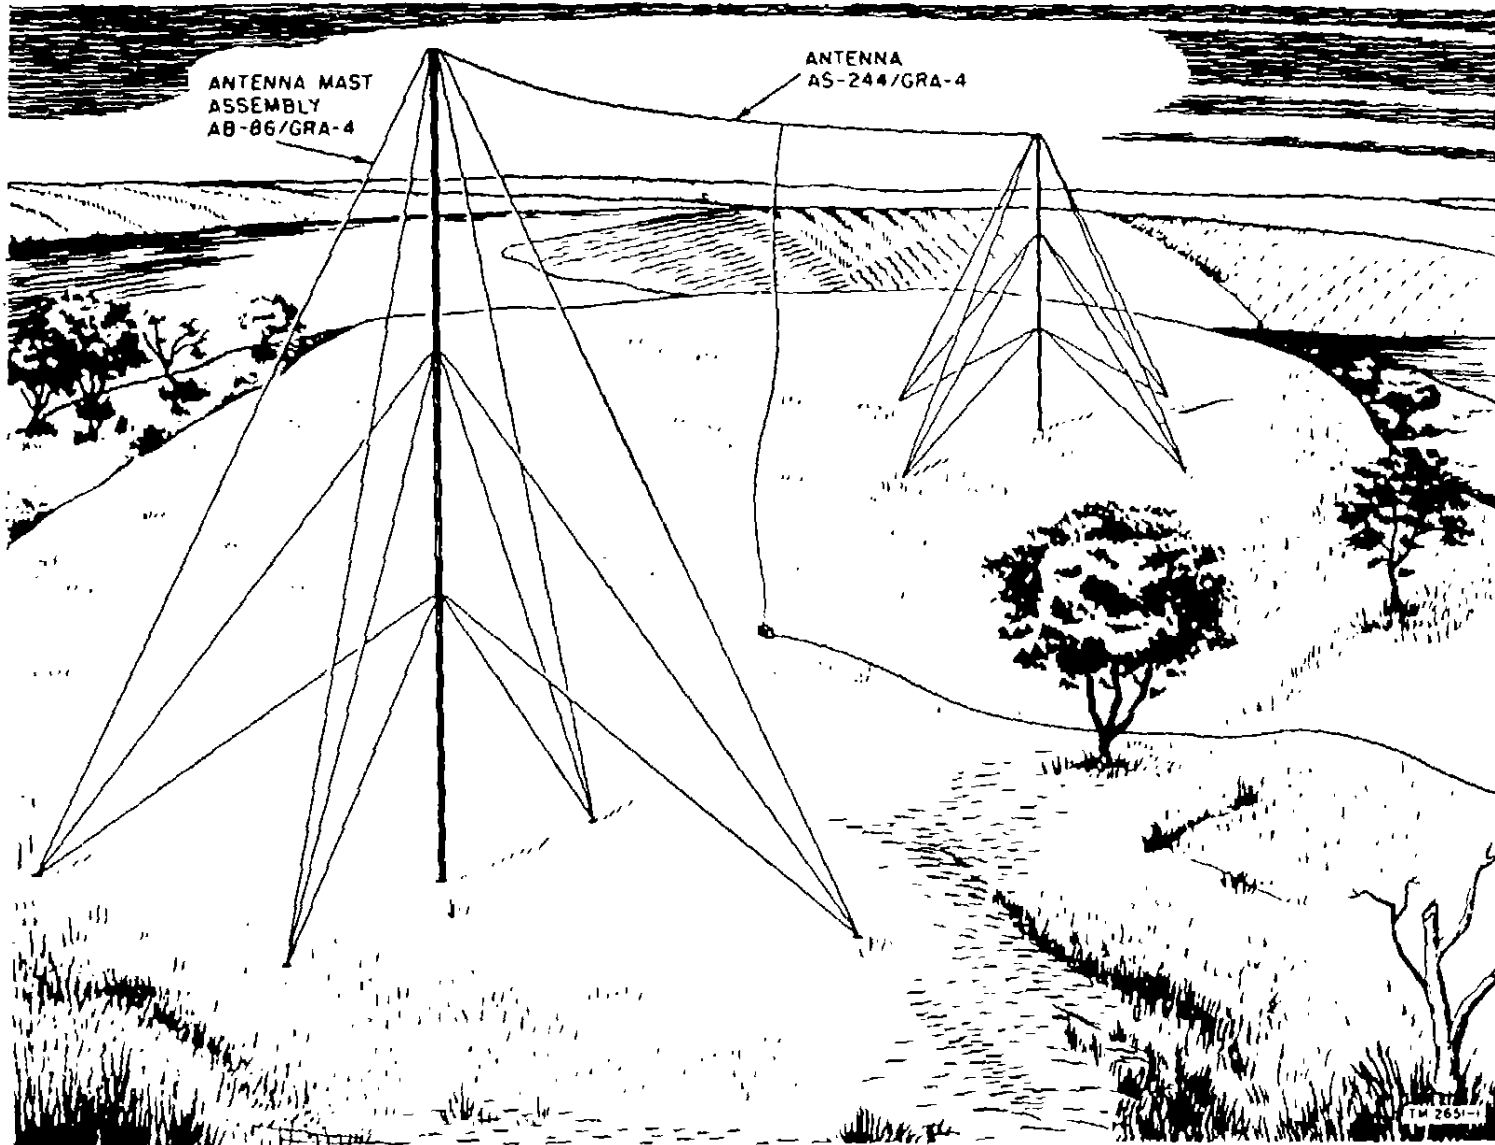
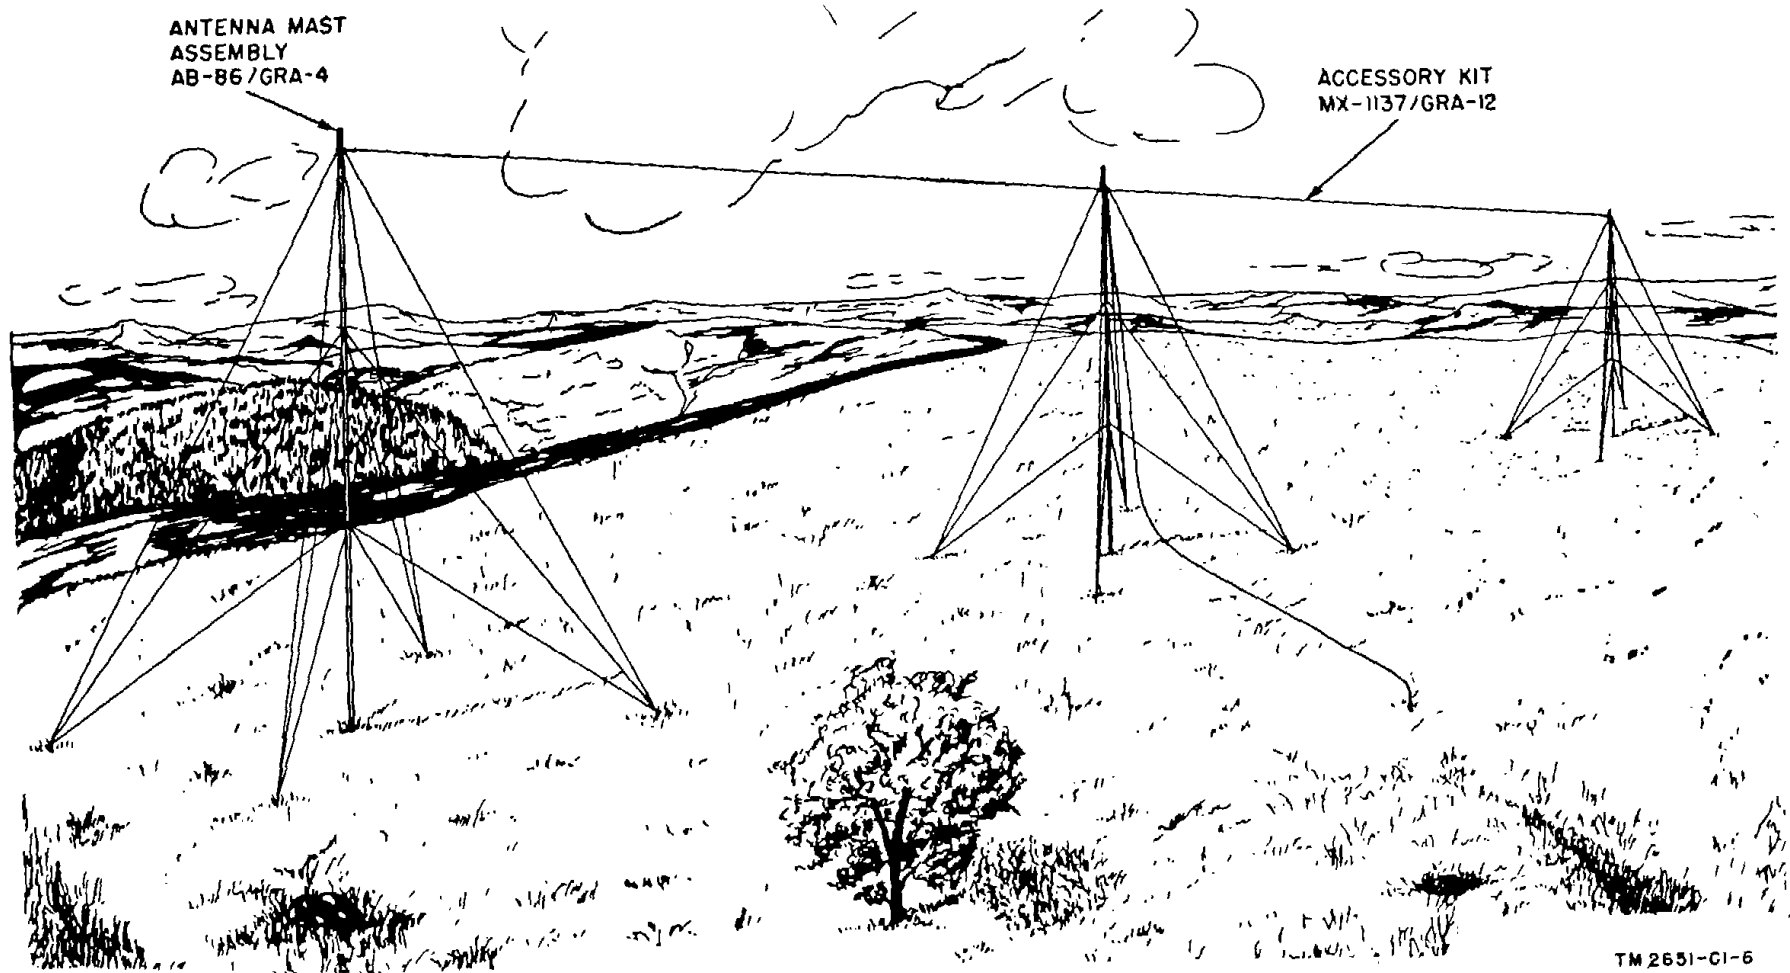

Figure 1. Antenna Group AN/GRA-4.
Figure 2. Antenna Group AN/GRA-12.
a. This manual contains information for the installation, operation, maintenance, and repair of Antenna Group AN/GRA-4 (fig.1) and Antenna Group AN/GRA-12 (fig. 2).
a. Antenna Group AN/GRA-4 consists of one Antenna AS244/GRA-4 and two Antenna Mast Assembly AB-86/GRA-4 (fig. 1). The antenna includes wire, insulators, halyards, tuning unit, and a carrying case. The mast assembly consists of 16 metal mast sections, a whip adapter, counterpoise, halyard, insulator, associated guys and stakes, and a carrying case. The units may be used to construct several different antenna combinations.
b. Antenna Group AN/GRA-12 consists of one Accessory Kit MX-1137/GRA-12 and three Antenna Mast Assembly AB86/GRA-4 (fig. 2). The accessory kit includes wire, a cable assembly, measuring tape, and carrying case. Each mast assembly contains 16 metal mast sections, a whip adapter, a counterpoise, a halyard, an insulator, associated guys and stakes, and a carrying case. The antenna group is used to construct a center-fed Hertz antenna.